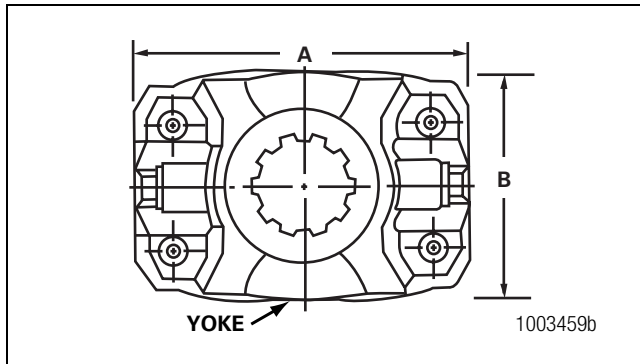

Figure 10.2
1. Measure dimensions A and B of the yoke you are servicing. Figure 10.2.